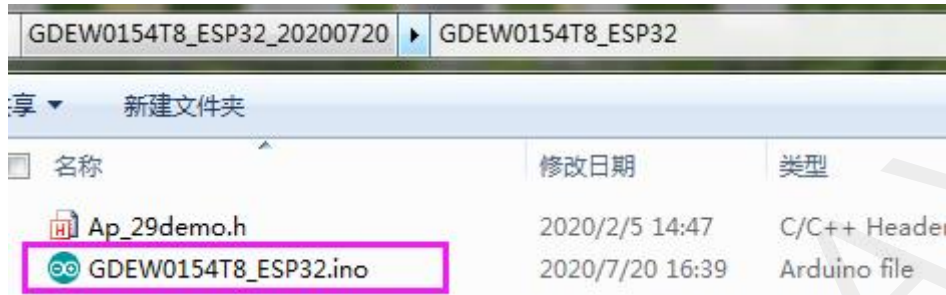

Figure 6 Open Arduino.ino
- 6) Open Arduino in the driver folder shown in Figure 6 with Arduino 1.8.6 ino engineering document.